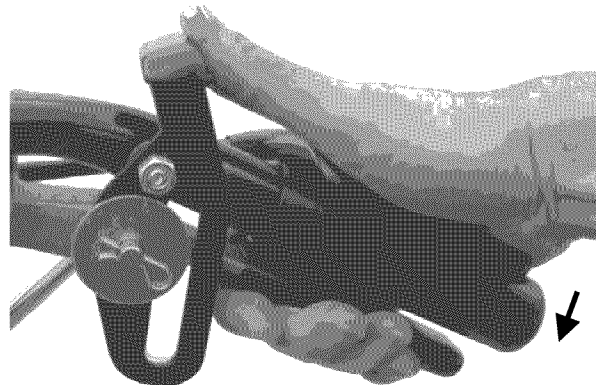

FIGURE 3.16
1. With both traction levers locked, depress Operator's Presence Control (OPC) against handle. See Figure 3.16.
2. With both Traction Levers locked, depress Operator's Presence Control (OPC) against handle. See Figure 3.16.